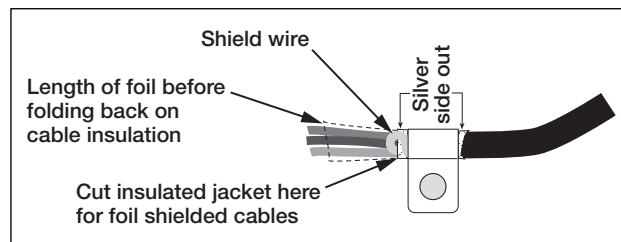
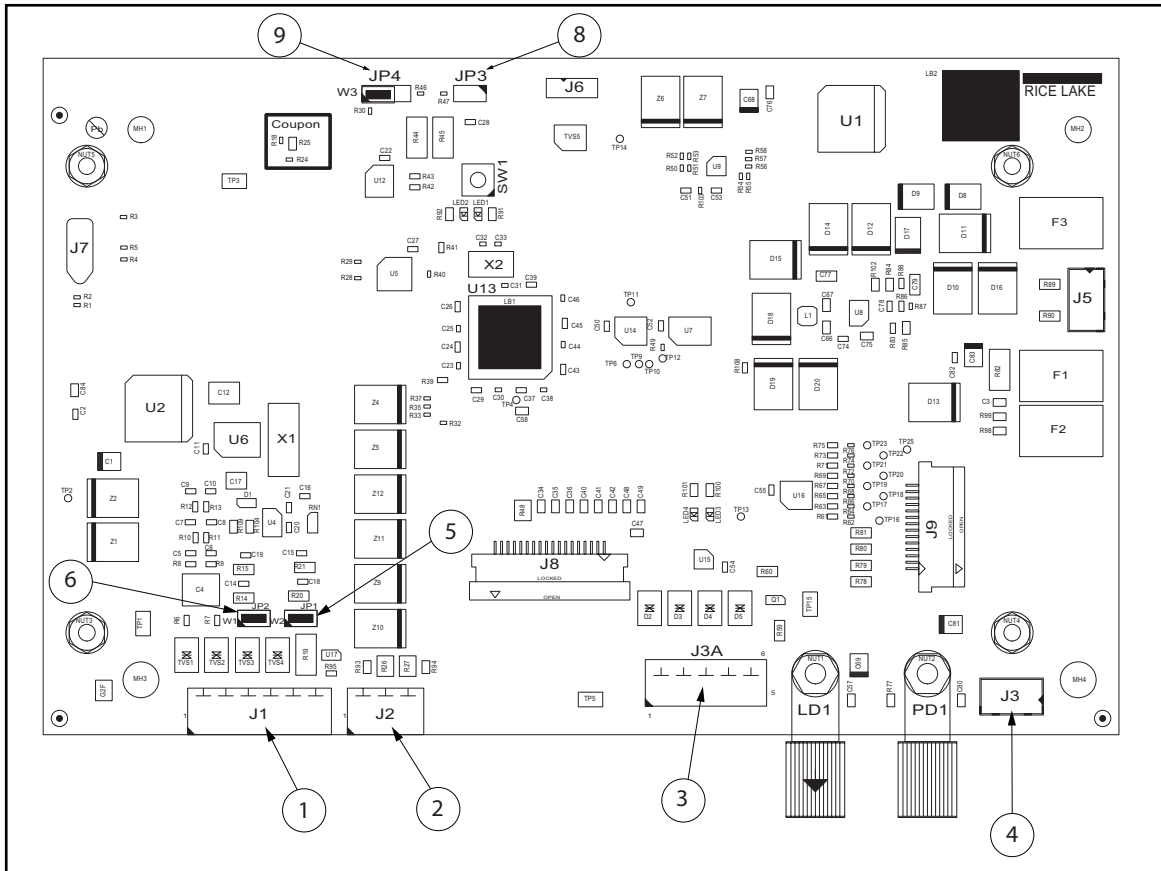

Figure 2-6. Foil Shielded Cable
Figure 2-10. 882IS CPU Board
**NOTE:** For 4-wire installation, leave jumpers JP1 and JP2 on (Figure 2-10 on page 25). Ensure Pins 3 and 4 are left empty for a 4-wire installation.
Connector J3A (Figure 2-10 on page 25) provides connections for the four-wire RS-422 serial communications. Figure 2-6 shows the pin assignments.